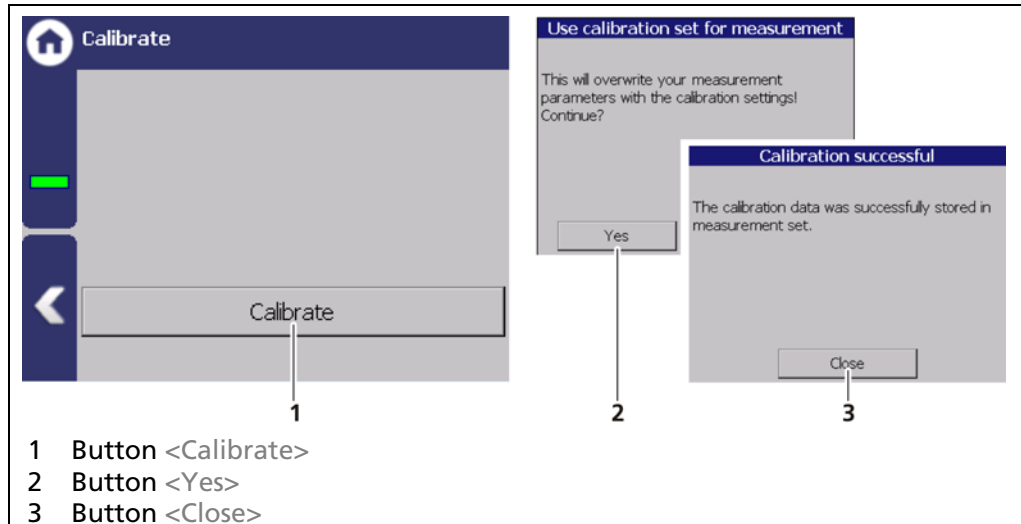

Fig. 72 Calibrate
1. Click on the button <Calibrate> (Fig. 72, item 1).
2. Click on the <Yes> button (Fig. 72, item 2) to overwrite your measurement parameters with the calibration settings.
3. Click on the <Close> button (Fig. 72, item 3)